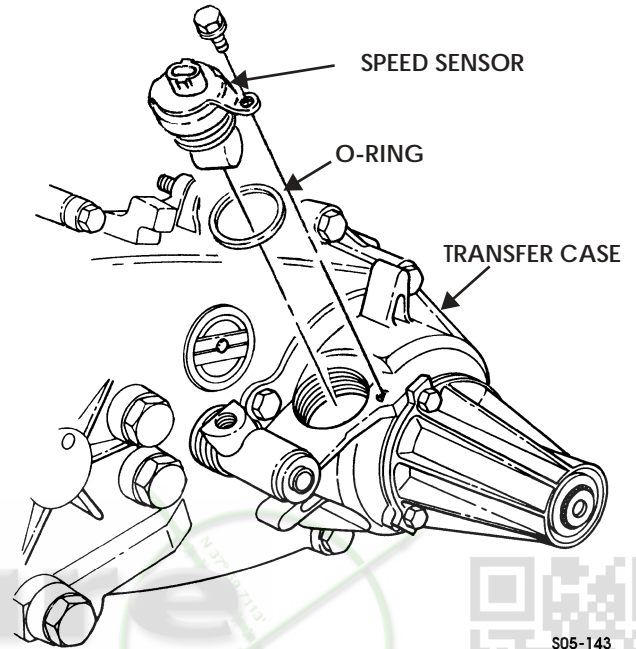

Figure 5-115: Speed Sensor
2. Remove bolt, speed sensor, and O-ring from transfer case. Discard O-ring (Figure 5-115).
3. Install O-ring on speed sensor (Figure 5-115).